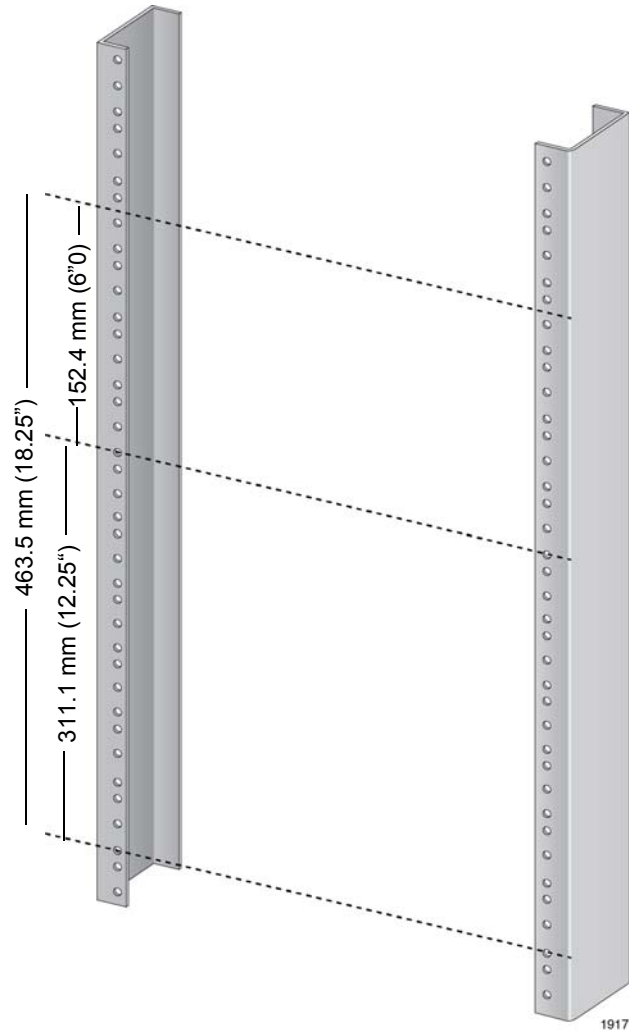

Figure 34. Reserving Vertical Rack Space
1. Reserve 311.1 mm (12.25") of vertical rack space for the installation of the AT-SBx3112 Chassis, as shown in Figure 34 on page 80.